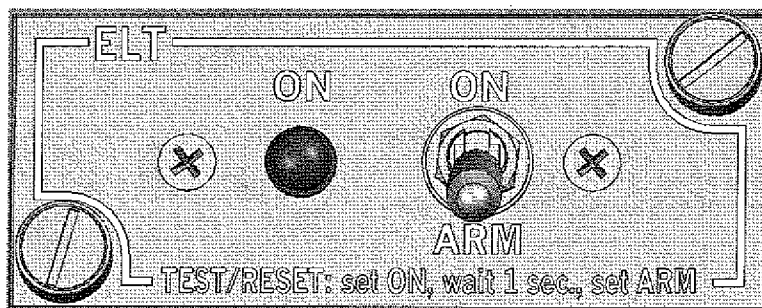

Fig. 205 - ELT (ARTEX) Remote Control Panel
- (1) Connect the internal electrical connectors (5).
- (2) Slowly place the ELT upper side (4) in its own position on the ELT lower side (6).
- (3) Secure together the ELT lower and upper sides by the four screws (3).
- (4) Connect the two electrical connectors (2).
- (5) Install the ELT protection cover.
- (6) Remove safety clips and tags and set circuit breaker ELT.
- (7) Set the battery switch to ON position.
- (8) Do an ELT (AF) functional test as described in this section.
14. ELT (AF) Antenna (ARTEX) - Removal (Ref. to Fig. 205)
- (2) Remove the ceiling furnishing panel (2) to gain access to ELT Antenna connector (1)
- (3) Disconnect the co-axial cable connector (1).
- (4) Remove the six screws (3) from the antenna base.
- (5) Remove the antenna (4).
15. ELT (AF) Antenna (ARTEX) - Installation (Ref. to Fig. 205)